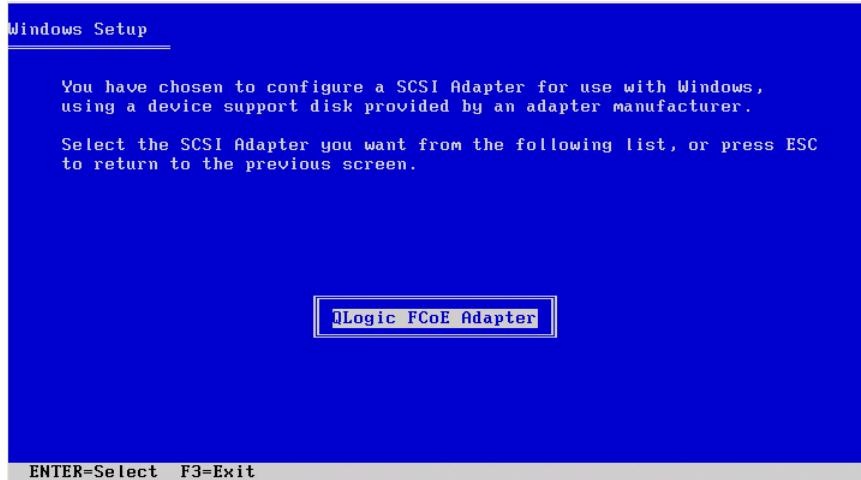

Figure 3-35. Select QLogic FCoE Adapter
6. Windows displays a list of drivers found on the disk (Figure 3-35). Select **QLogic FCoE Adapter**, and then press ENTER.